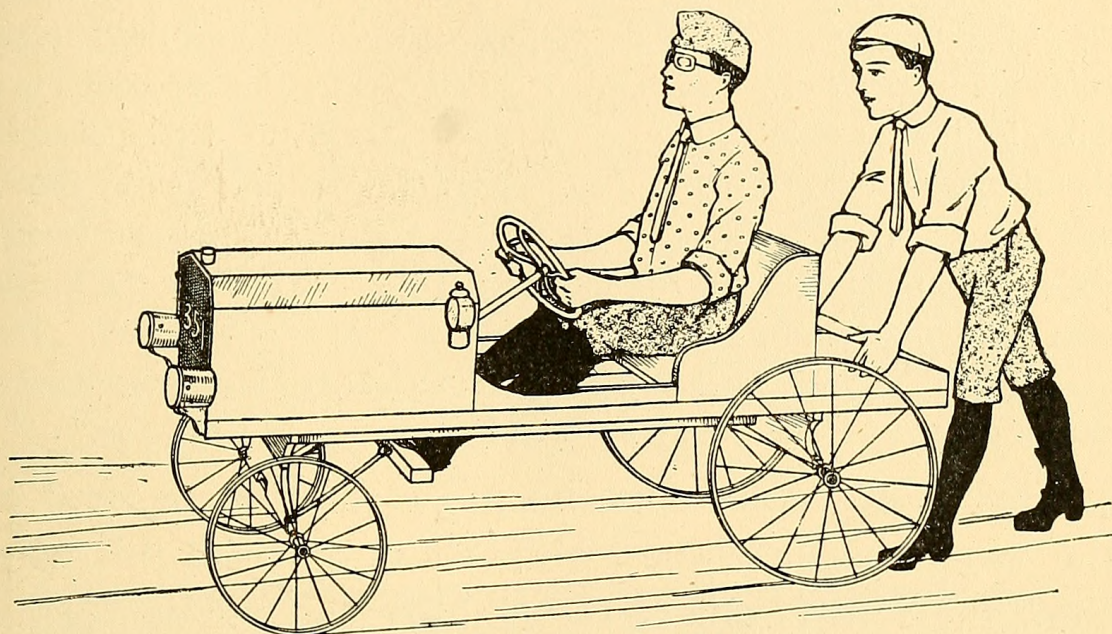

FIG. 458. — A Pushmobile.
**A Pushmobile** is a unique form of home-made wagon that has been developed from the simple wagons which the boys used to make for coasting, and for pushing from behind, when the automobile was unknown. It is patterned as nearly as possible after an automobile, and it is pushed by the mechanic, who runs behind, while the driver rides and attends to the steering. Working details for making one of these unique wagons are shown in Figs. 458 to 471.
Now, boys, if you have not become fired with enthusiasm after reading the above accounts of the work of the Flushing Pushmobile Club, the author has missed his guess; if you *have*, get to work and construct a machine like the one shown in Fig. 458 and described upon the following pages, then show it to your boy friends, and the
**The Hood** is made out of a box with the cover and bottom removed, and a three-sided top constructed upon it. If you cannot find a box of the right size, you can cut down a large box or build the hood out of boards. Figures 458
and 467 show the shape of the top. Fasten a small pill box to the top of the hood, as shown, for the cap to the "radiator" (Fig. 458).